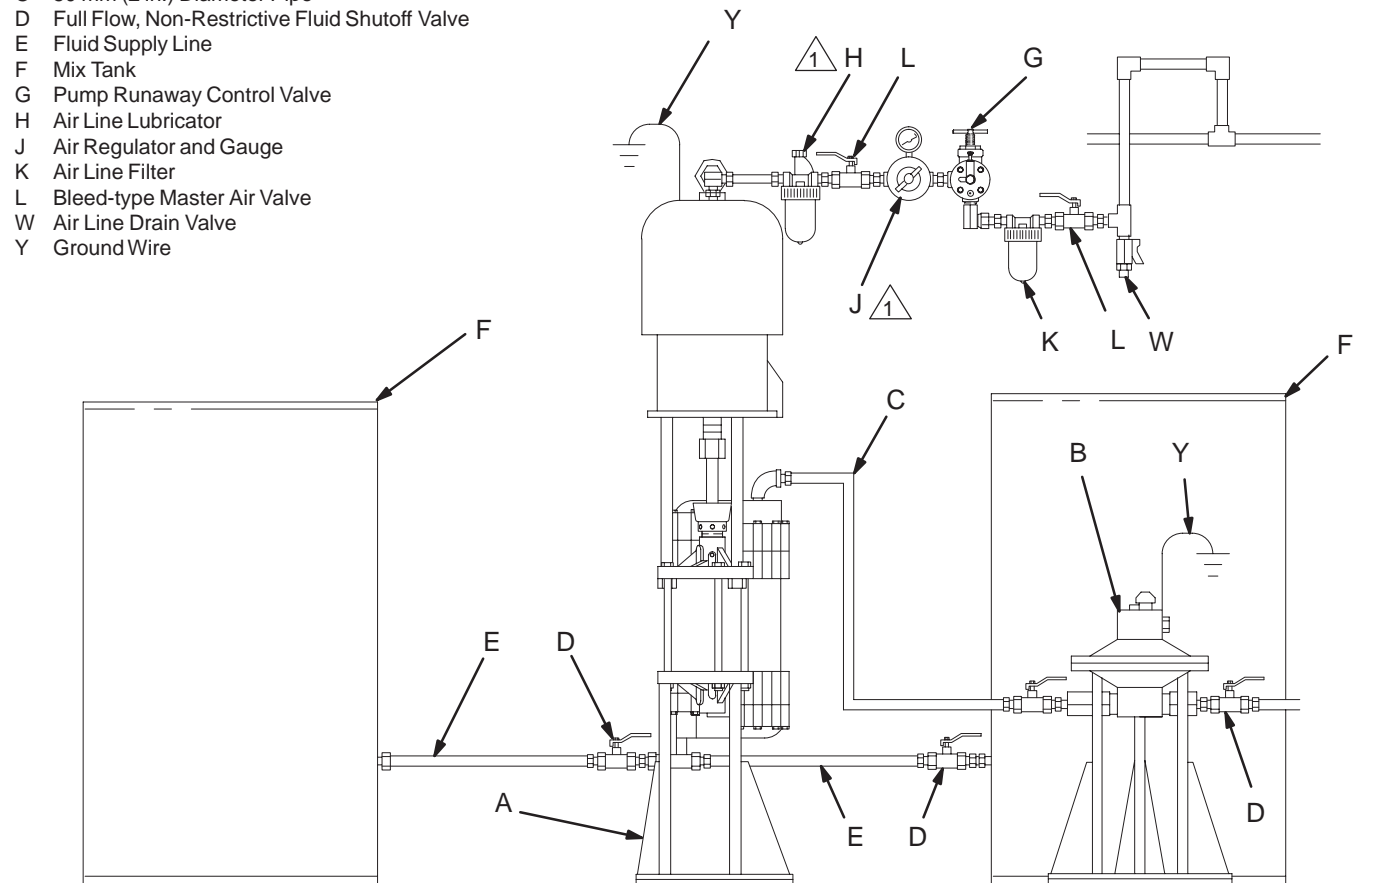

Fig. 4
The Typical Installations shown in Figs. 4 and 5 are only examples. Contact your Graco distributor for system design assistance.
In an air-powered system, install the air line accessories in the order shown in Fig. 4. Working upstream from the pump air inlet, install an air line lubricator (H) for automatic air motor lubrication. Next, install a bleed-type master air valve (L) to relieve air trapped between the valve and the pump, and an air regulator and gauge (J) to control pump speed.